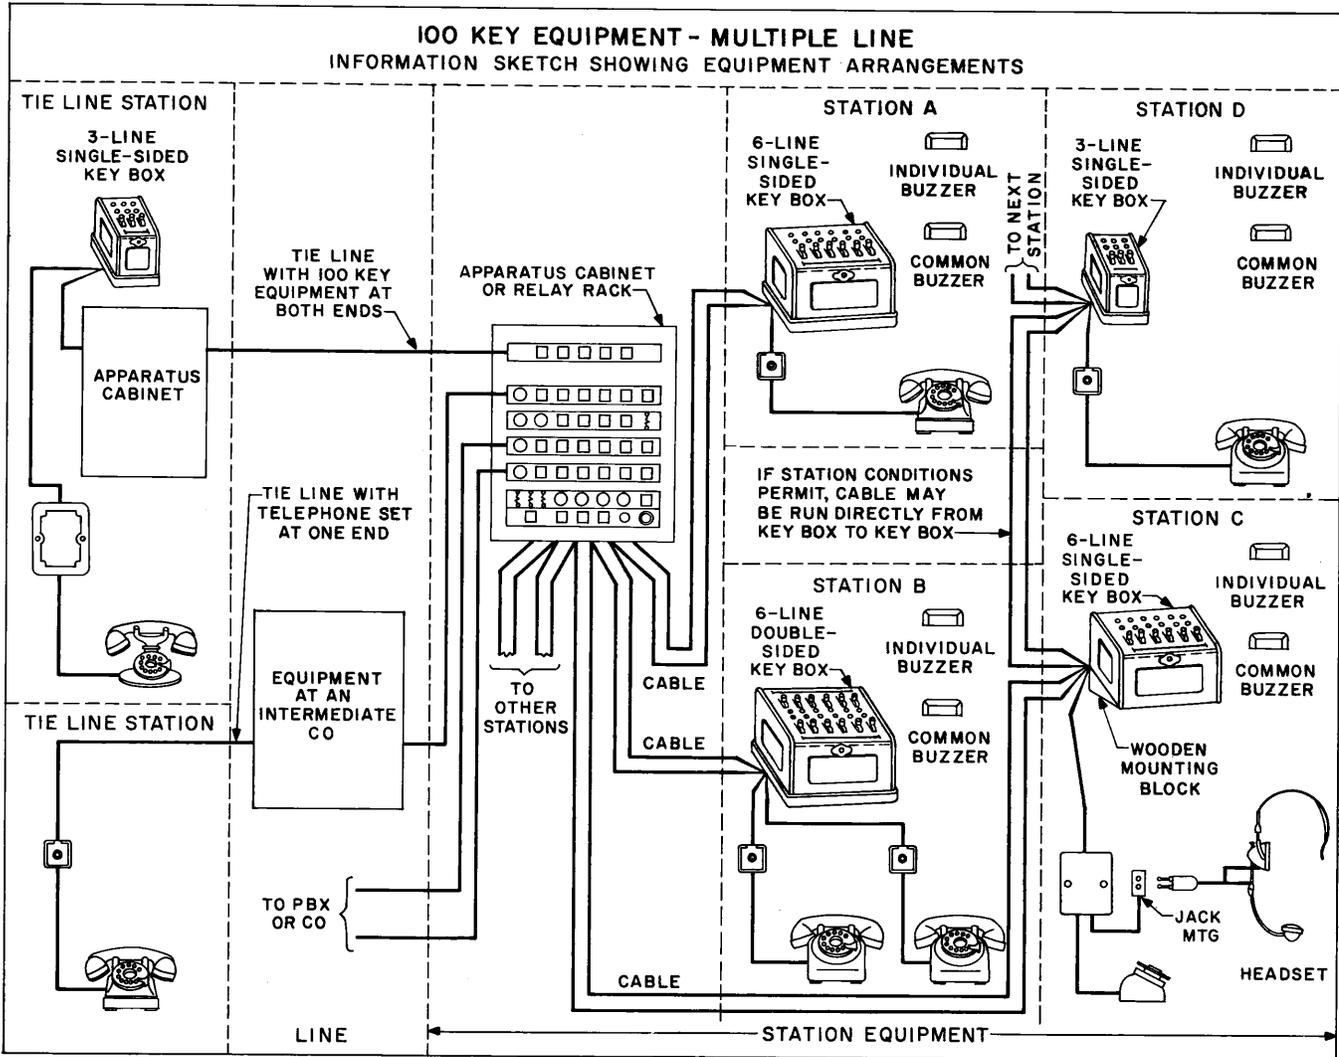

Fig. 2 - 100 Key Equipment Cable Distribution System
- Cable distribution system necessary for interconnecting (see Fig. 2).